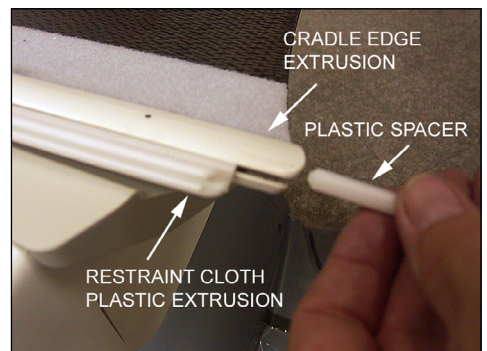

Fig. 36
6. Remove the existing Plastic Set Screws constraining the GE CT Cradle Restraint Cloth Plastic Extrusion at the head end of the cradle (Fig. 36).
7. Slide the Restraint Cloth Plastic Extrusion (2) towards the CT and using a hacksaw or equivalent tool, cut off 1.5" (38 mm) from the length of the extrusion.
8. Slide the Restraint Cloth Plastic Extrusion (2) into the CT cradle, and secure by reinstalling the Plastic Set Screws (2) into the GE CT cradle.